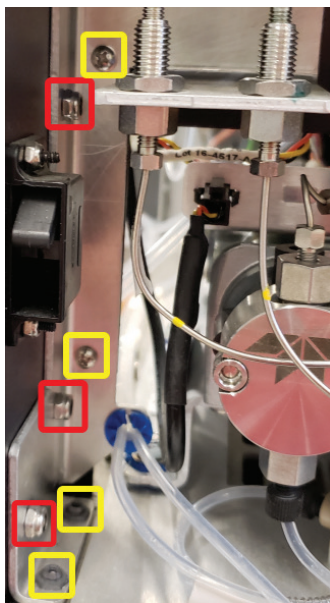

Figure 10: Bulkhead fasteners
2. Using a 5/16" open end wrench or ratchet, remove the three nuts attaching the bulkhead bracket to the frame (Figure 10; red). Using a #2 Phillips screwdriver remove the four screws attaching the bulkhead bracket to the frame (Figure 10; yellow). The two lower screws must be removed from the underside of the instrument.